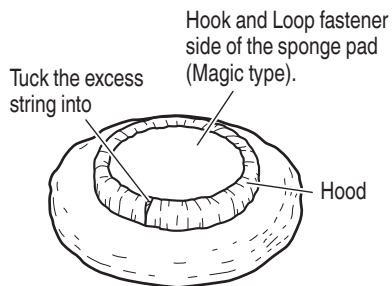

Fig. 5
- (1) Press the lock pin to secure the spindle and tighten the backing pad by rotating the outer circumference.
- (2) Wrap the sponge pad (magic type) (optional accessory) and firmly secure it by tying a string around it. Be sure the excess string is firmly tucked inside the wool bonnet to prevent it from flying out while polishing. The unbalanced fitting of the wool bonnet may cause vibration (Fig. 5).
- (3) Adhere the sponge pad (Magic type) with the wool bonnet attached by pressing it firmly against the backing pad. Align the respective centers when attaching. If not centered, vibration will result.
- (4) To remove the wool bonnet, follow the above-mentioned procedure in reverse order.